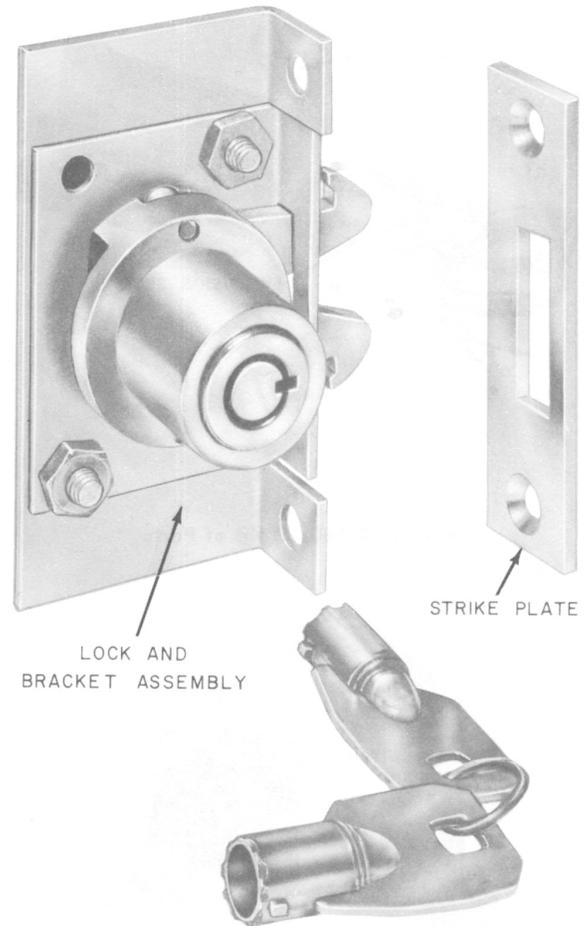

Fig. 4—D-180382 Kit of Parts
3.10 Install the mechanical door lock (D-180382 Kit of Parts, Fig. 4) as follows: